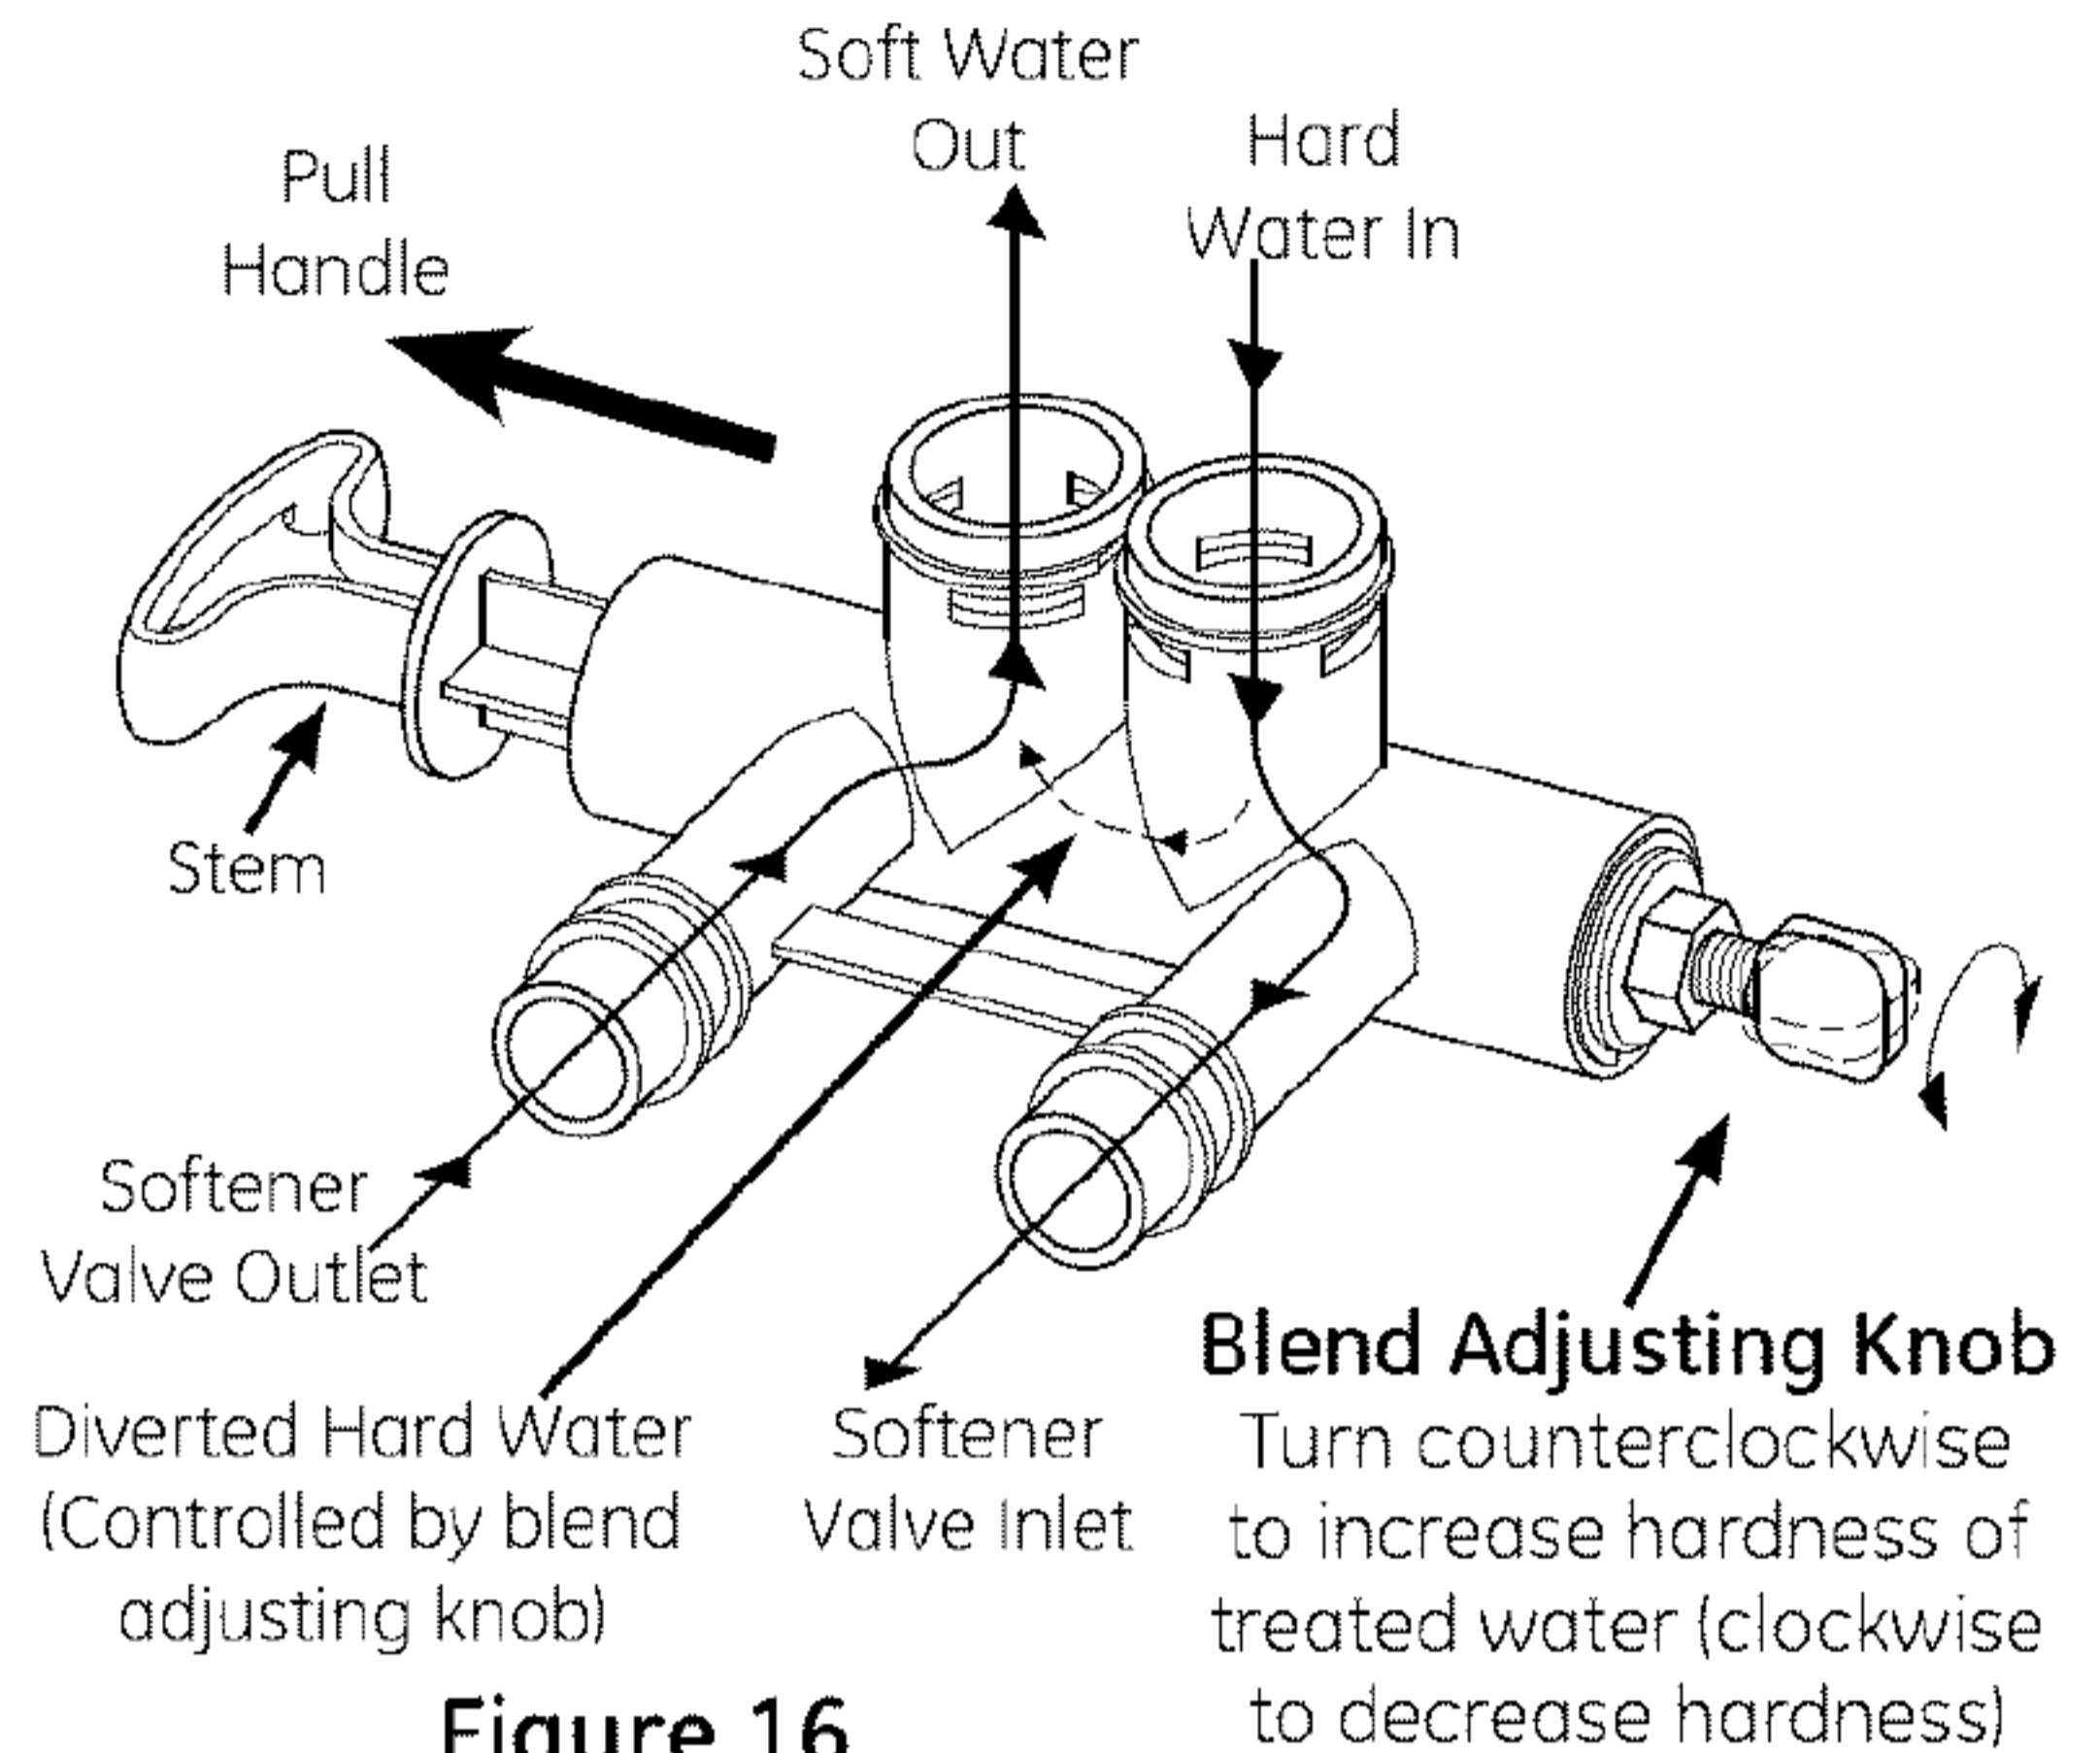

Figure 16
The blend adjusting knob (Figure 16) gives the ability to finely adjust hardness of the treated water leaving the water softener. If slightly harder water is desired than is normally delivered by the water softener, the blend adjusting knob can divert a small stream of hard water and blend it with the soft water entering the home. The amount of water diverted is controlled by turning a blend adjusting knob on the end cap of the valve stem.
1. Hold bypass handle to keep the valve stem from rotating (see figure 16). Loosen hex nut on blend adjustment knob by turning the hex nut counterclockwise.
2. **TO INCREASE HARDNESS:** With the bypass in the service position (see figure 16) hold the handle to keep the valve stem from rotating and turn the blend adjusting knob counterclockwise up to 2 turns from the closed position. It is recommended that adjustments be made in quarter turn increments over several weeks until the desired hardness is achieved. **NOTE:** Once an adjustment is made to the blend valve knob the change in water hardness at the homes faucets or shower heads may take several days to be noticed. This delay is due to the large amounts of already conditioned water in the pipes and water heater that must be exchanged before a change in hardness can be noticed. Have the water tested to determine the actual water hardness.
3. **TO DECREASE HARDNESS:** With the bypass in the service position (see figure 16) hold the handle to keep the valve stem from rotating and turn the blend adjusting knob clockwise. When the knob will not turn anymore, hard water is no longer being blended into the soft water.
4. Once the desired hardness is achieved tighten the hex nut (see figure 16) clockwise until it comes in contact with the bypass stem.